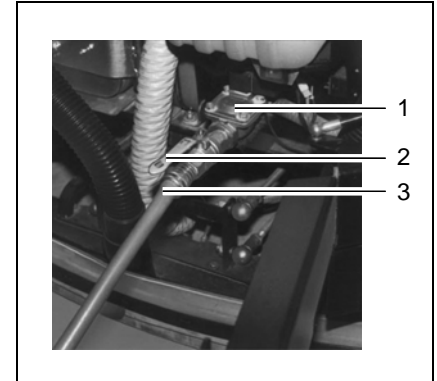

Fig. 28
2. Connect a filling hose (Fig. 28/3) with a connection diameter of 0.7 in (3/4 inch).
3. Open the ball cock (Fig. 28/2).
4. Press the button for the solenoid valve (Fig. 28/1). This is located under the suction turbine.
The button for the solenoid valve (Fig. 28/1) can also be actuated when the key switch is switched off.
7. Close the ball cock (Fig. 28/2).
8. Disconnect the filling hose (Fig. 28/3).